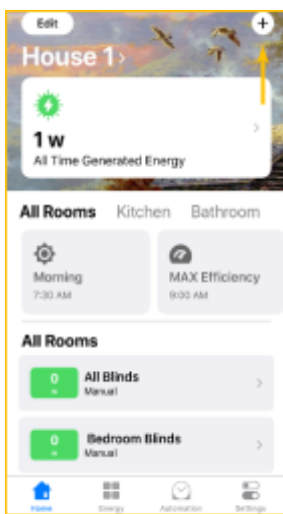

Figure 24
**10.7.1.** Click + in the top right corner to start (Fig. 24).